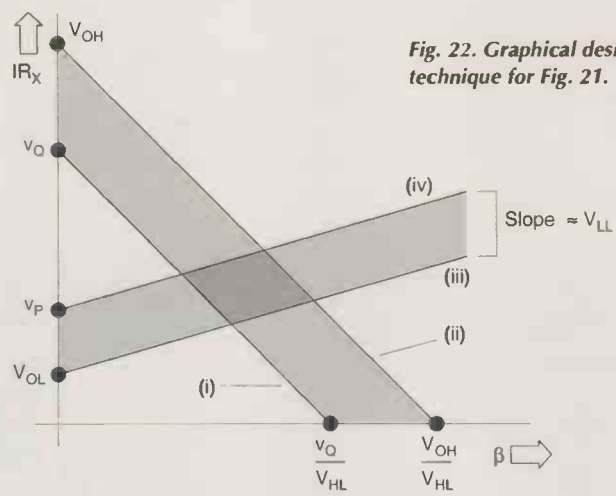

Fig. 22. Graphical design technique for Fig. 21.
On a plot of  $IR_X$  versus  $\beta$ , Fig. 22, condition (17) is satisfied if the operating point lies between the parallel lines (i), (ii) and condition (19) is satisfied for operation between parallel lines (iii), (iv).
A graphical procedure, similar to that of Fig. 22, is applicable.